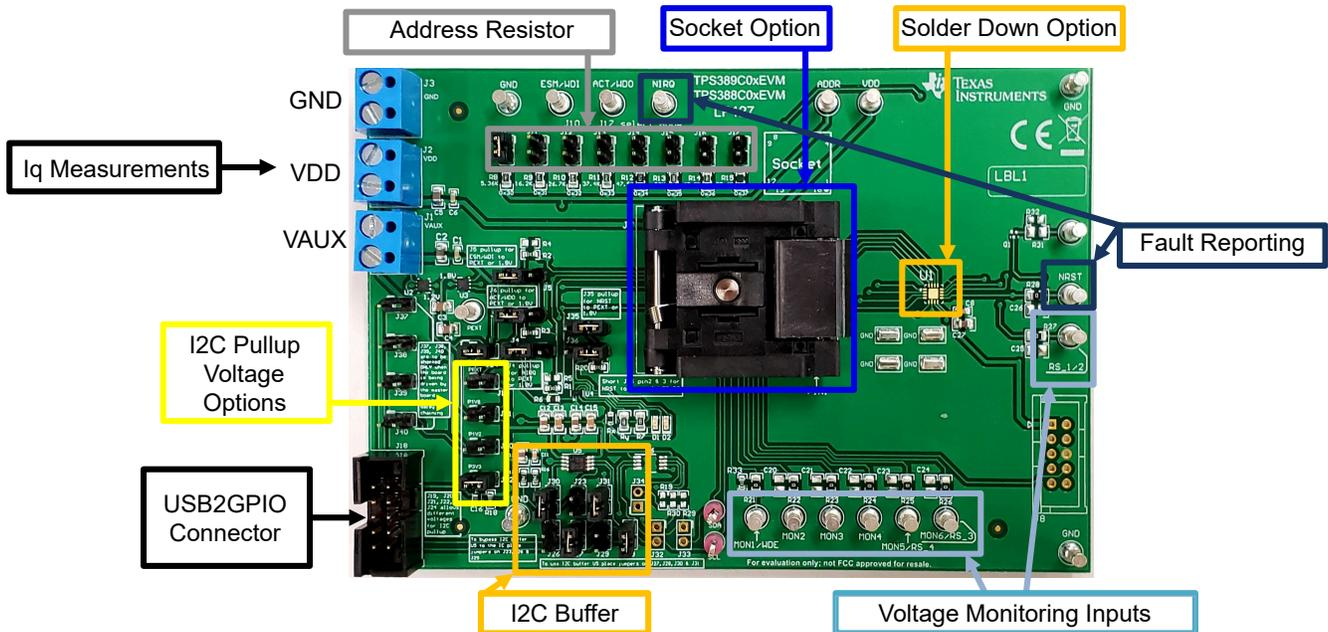

Figure 2-3. TPS389C0xEVM Connection Description
9. The description of the TPS389C0xEVM connections can be found in Figure 2-3.